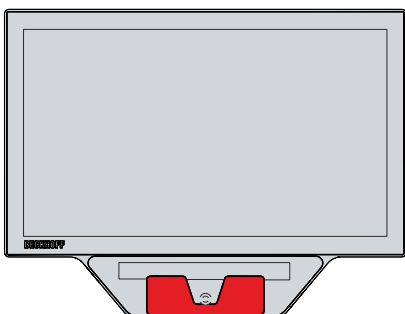

Fig. 18: RFID card holder position
3. Position the holder with the lower edge flush with the lower edge of the front laminate (see Fig. 18).